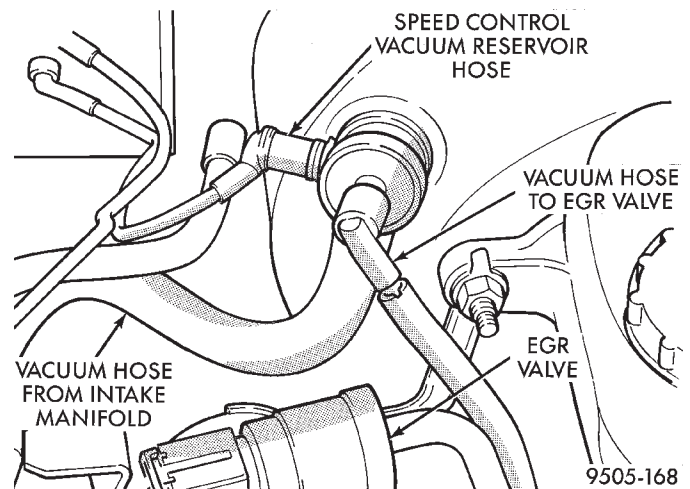

Fig. 93 Vacuum Hose Attachment To Check Valve
(6) Remove the vacuum hoses (Fig. 93) from the check valve located on the power brake vacuum booster.
(11) Connect all previously removed vacuum hoses onto the power brake vacuum booster check valve (Fig. 93).